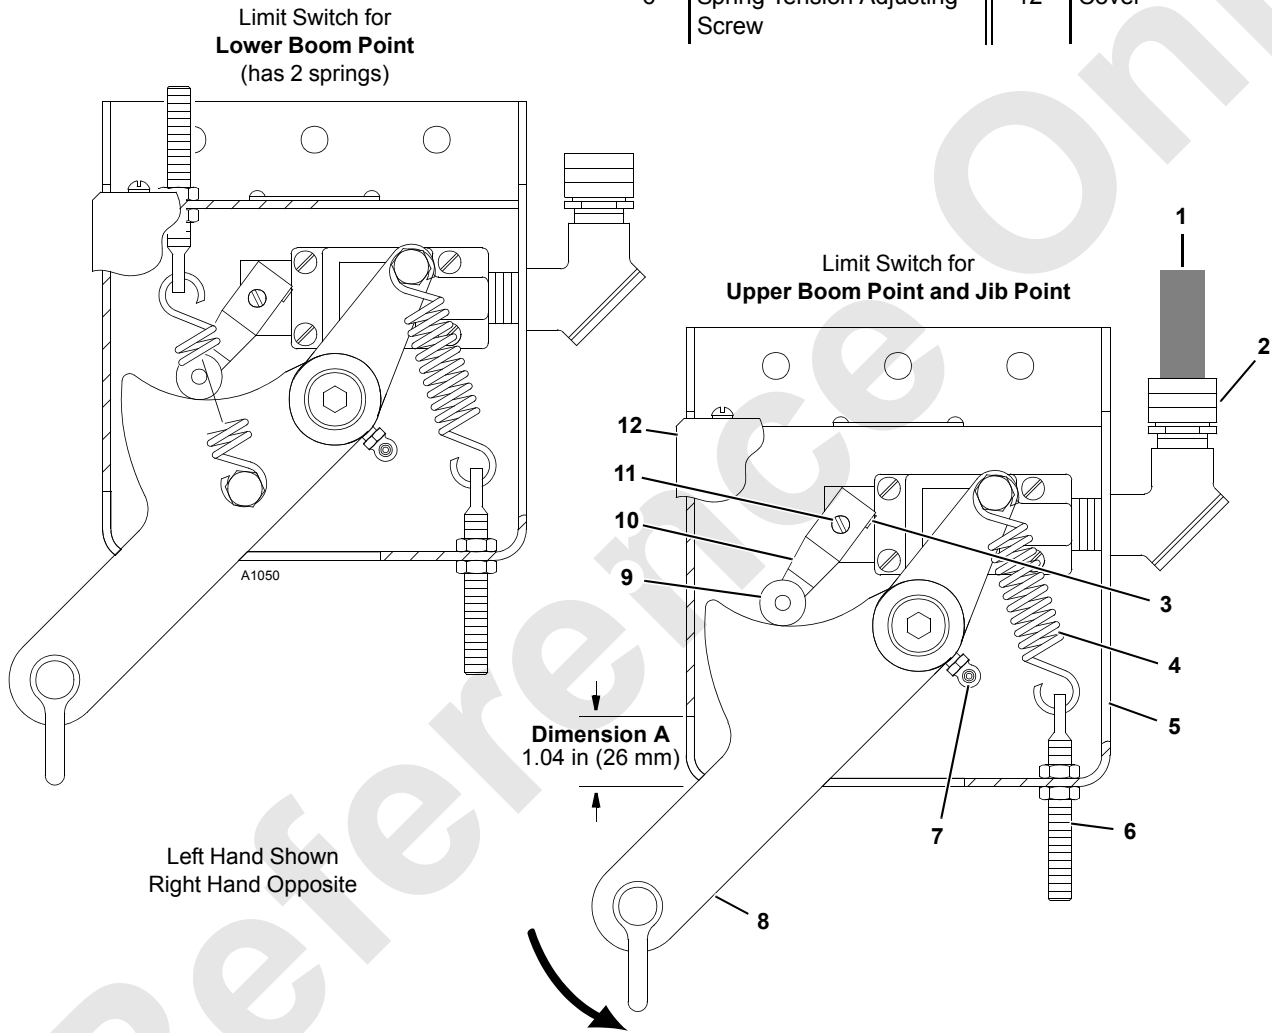

FIGURE 6-15
See Figure 6-1 through Figure 6-15 for component identification.
- a. Inspect each limit switch lever and actuating lever (see Figure 6-15) for freedom of movement. Apply one-half shot of grease to fitting on the actuating lever; wipe away any excess grease.
See Figure 6-15 for the following procedure.